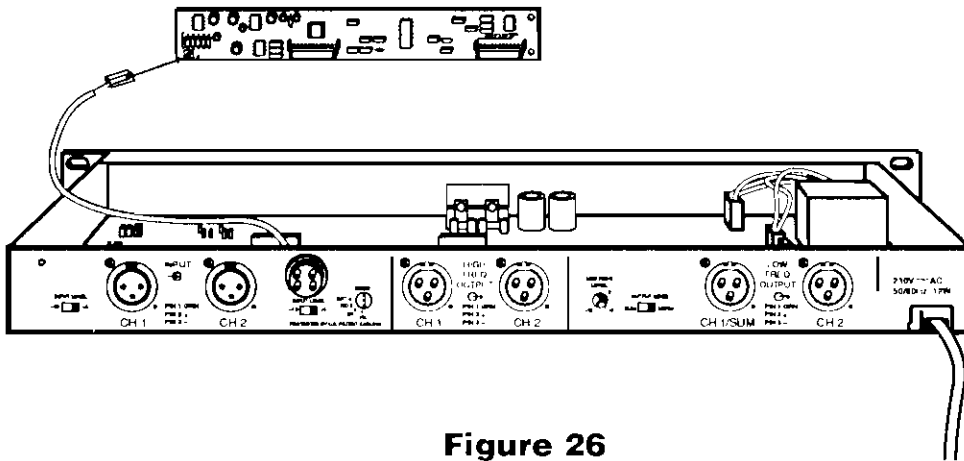

Figure 26
2. Insert the small white connector on the internal harness into the J1 jack on the circuit board (Figure 26). Match the fin on top of the connector to the slot on top of the jack.